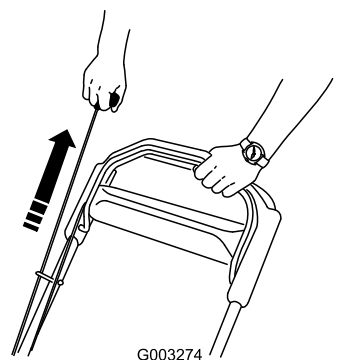

Figure 18
3. Pull the recoil starter (Figure 18).